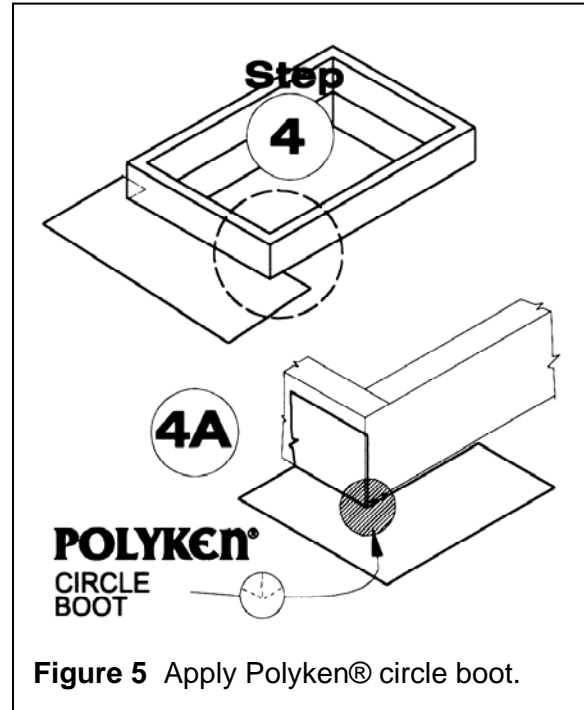

Figure 5 Apply Polyken® circle boot.
Step 4. Apply Polyken® or Nashua® circle boots at lower curb corners (see Figure 5).